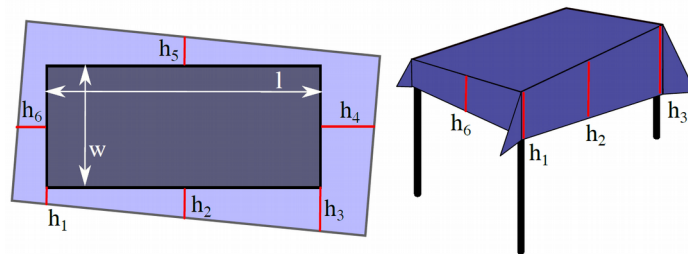

Figure 1 - Measures for quality function
6. Quality function: once the task is finished, measure the dropping lengths of the tablecloth indicated in Figure 1 and evaluate the quality measures (they are automatically computed in xls and ods files). Annotate and take pictures of any abnormal configuration that should be reported but does not reflect on the quality function, e.g. a wrinkle on the top or the hanging parts.